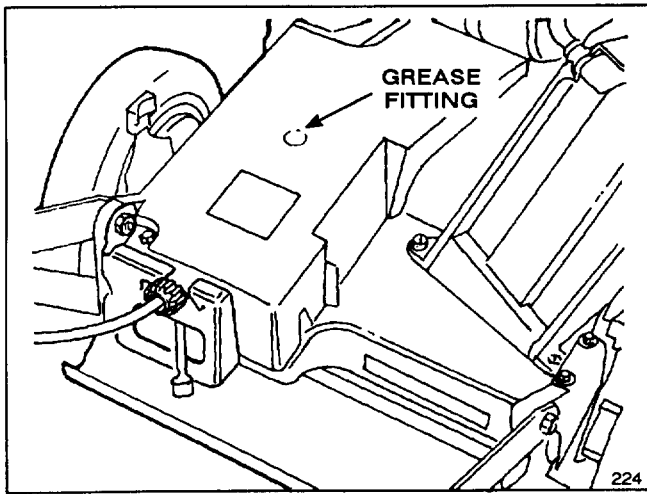

Figure 27
2. Install grease gun onto fitting thru belt cover opening (Fig. 27). Gently apply 1-2 pumps of grease.